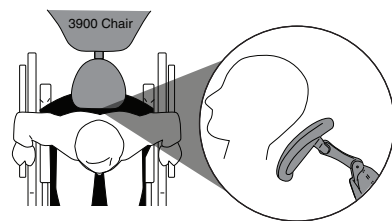

Figure 3. Headrest positioning for wheelchair
4. Position patient. If necessary fine tune headrest position (Figure 3).